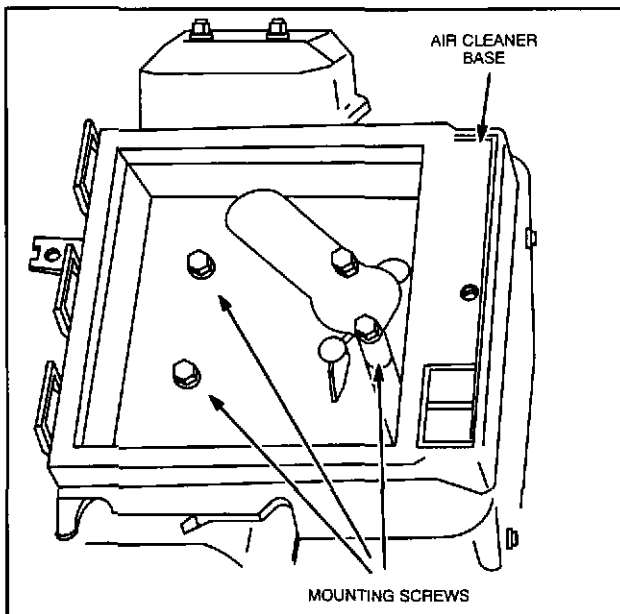

**Fig. 90 Removing Air Cleaner Base – (Current Style)**
**Current style:** Remove air cleaner cover and cartridge with pre-cleaner. Remove five screws holding air cleaner base, Fig. 90.